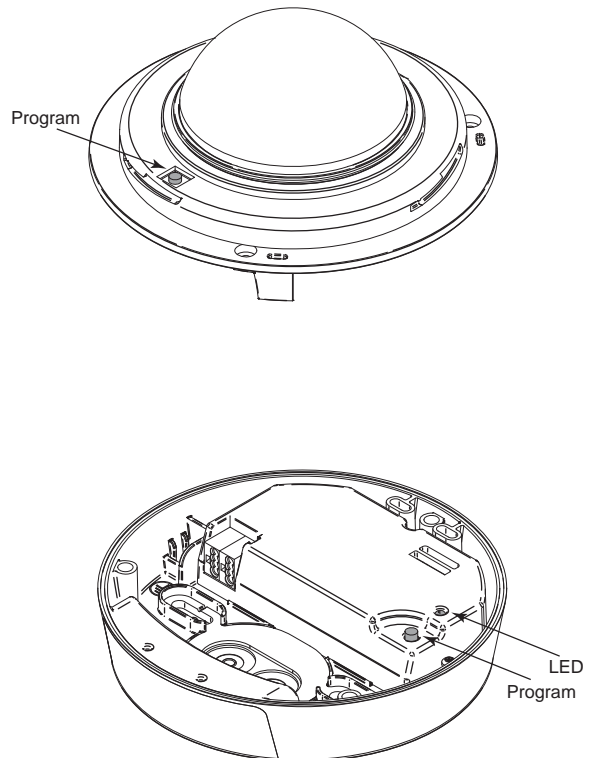

Fig. 7
- 3: Activate the “Prog.” button on IR remote control 41-930 (accessory) when it is unlocked. **Fig. 7.**